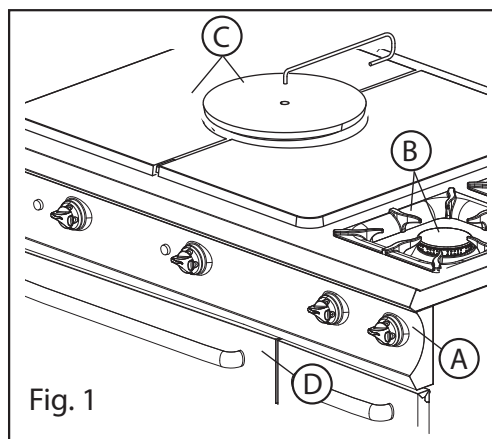

Fig. 1
- Close the cut-off cock upstream the machine (Fig. 1);
- Close the cut-off cock upstream the machine (Fig. 1).
- Replace the pilot injector (Fig. 1) with the one corresponding to the selected gas according to what reported in the reference Table.
- Replace the injector (Fig. 1) with the one corresponding to the selected gas according to what reported in the reference Table.
- Unscrew the locking screw (Fig. 1).
- Where required set the distance (X) mm of the bushing corresponding to the selected gas (see Gas reference Table).
- With the appropriate tools, adjust the opening of the pilot hole (Fig. 1) to set the following:
2. Remove the grilles, burner caps and burners (Fig. 1/A burner 5.5 / 7 kW - Fig. 1/B burner 11 kW)
1. Remove the panel and knobs (Fig. 1/A)
2. **Stove:** remove the grills and burner-caps (Fig. 1/B)
**Solid top 980:** remove the central disc with the appropriate manoeuvring tool and the side plates (Fig. 1/C).
**Oven:** open the door (Fig. 1/D).